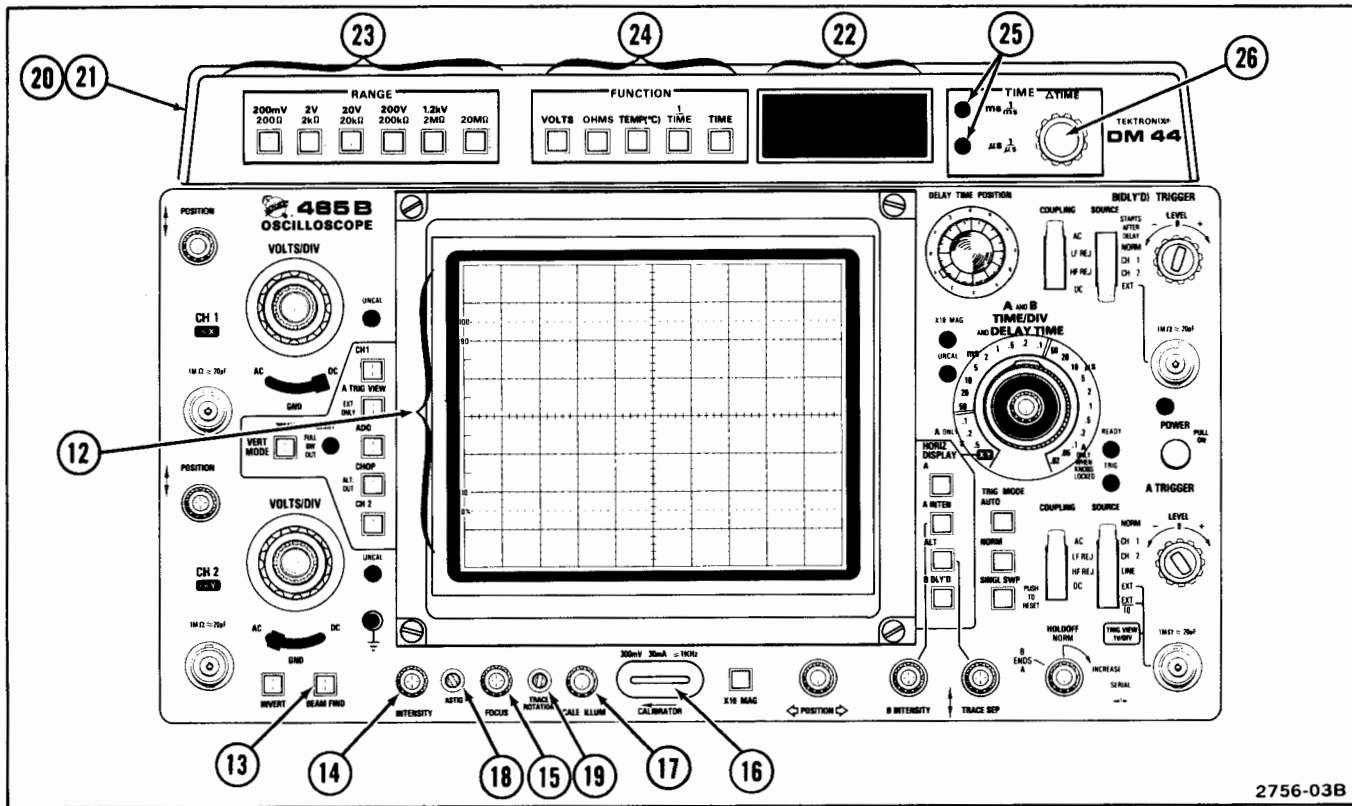

Figure 3. Display, calibrator, and DM44 controls, connectors, and indicators.
Refer to Figure 3 for location of items 12 through 26.
⑫ **Internal Graticule**—Eliminates parallax. Risettime and amplitude measurement points are indicated at the left edge of the graticule.
⑬ **BEAM FINDER Switch**—Compresses the display to within the graticule area and provides a visible viewing intensity to aid in locating off-screen displays.